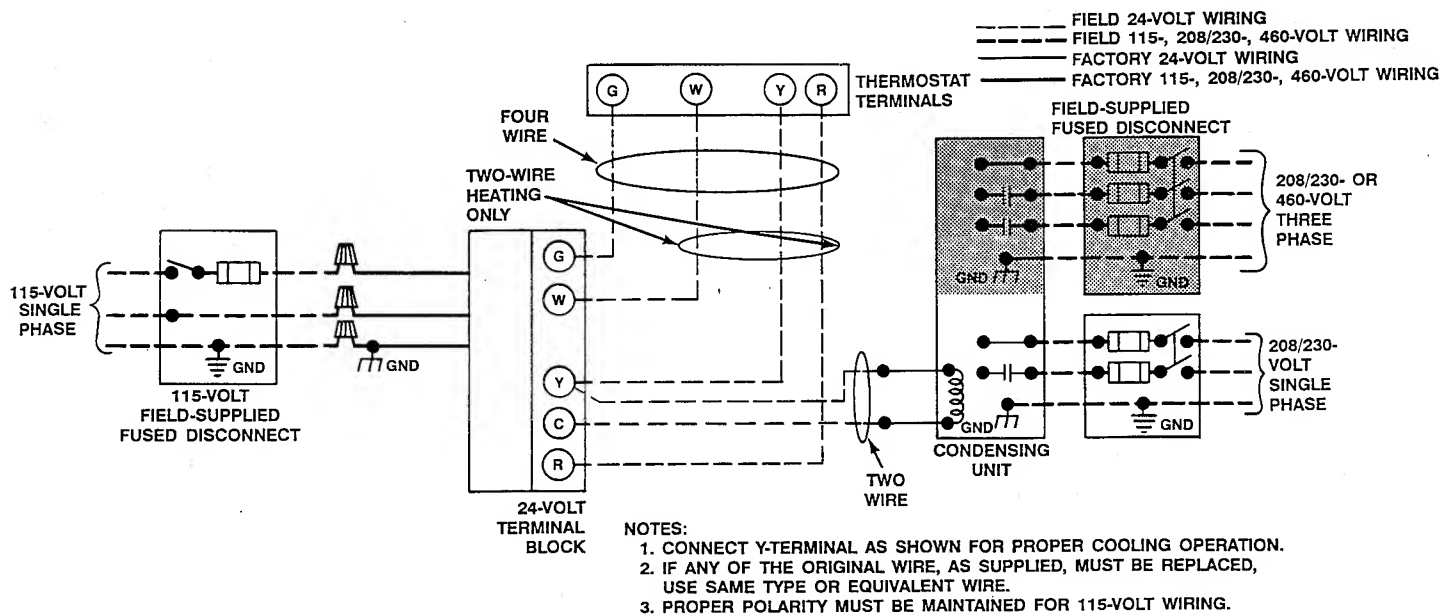
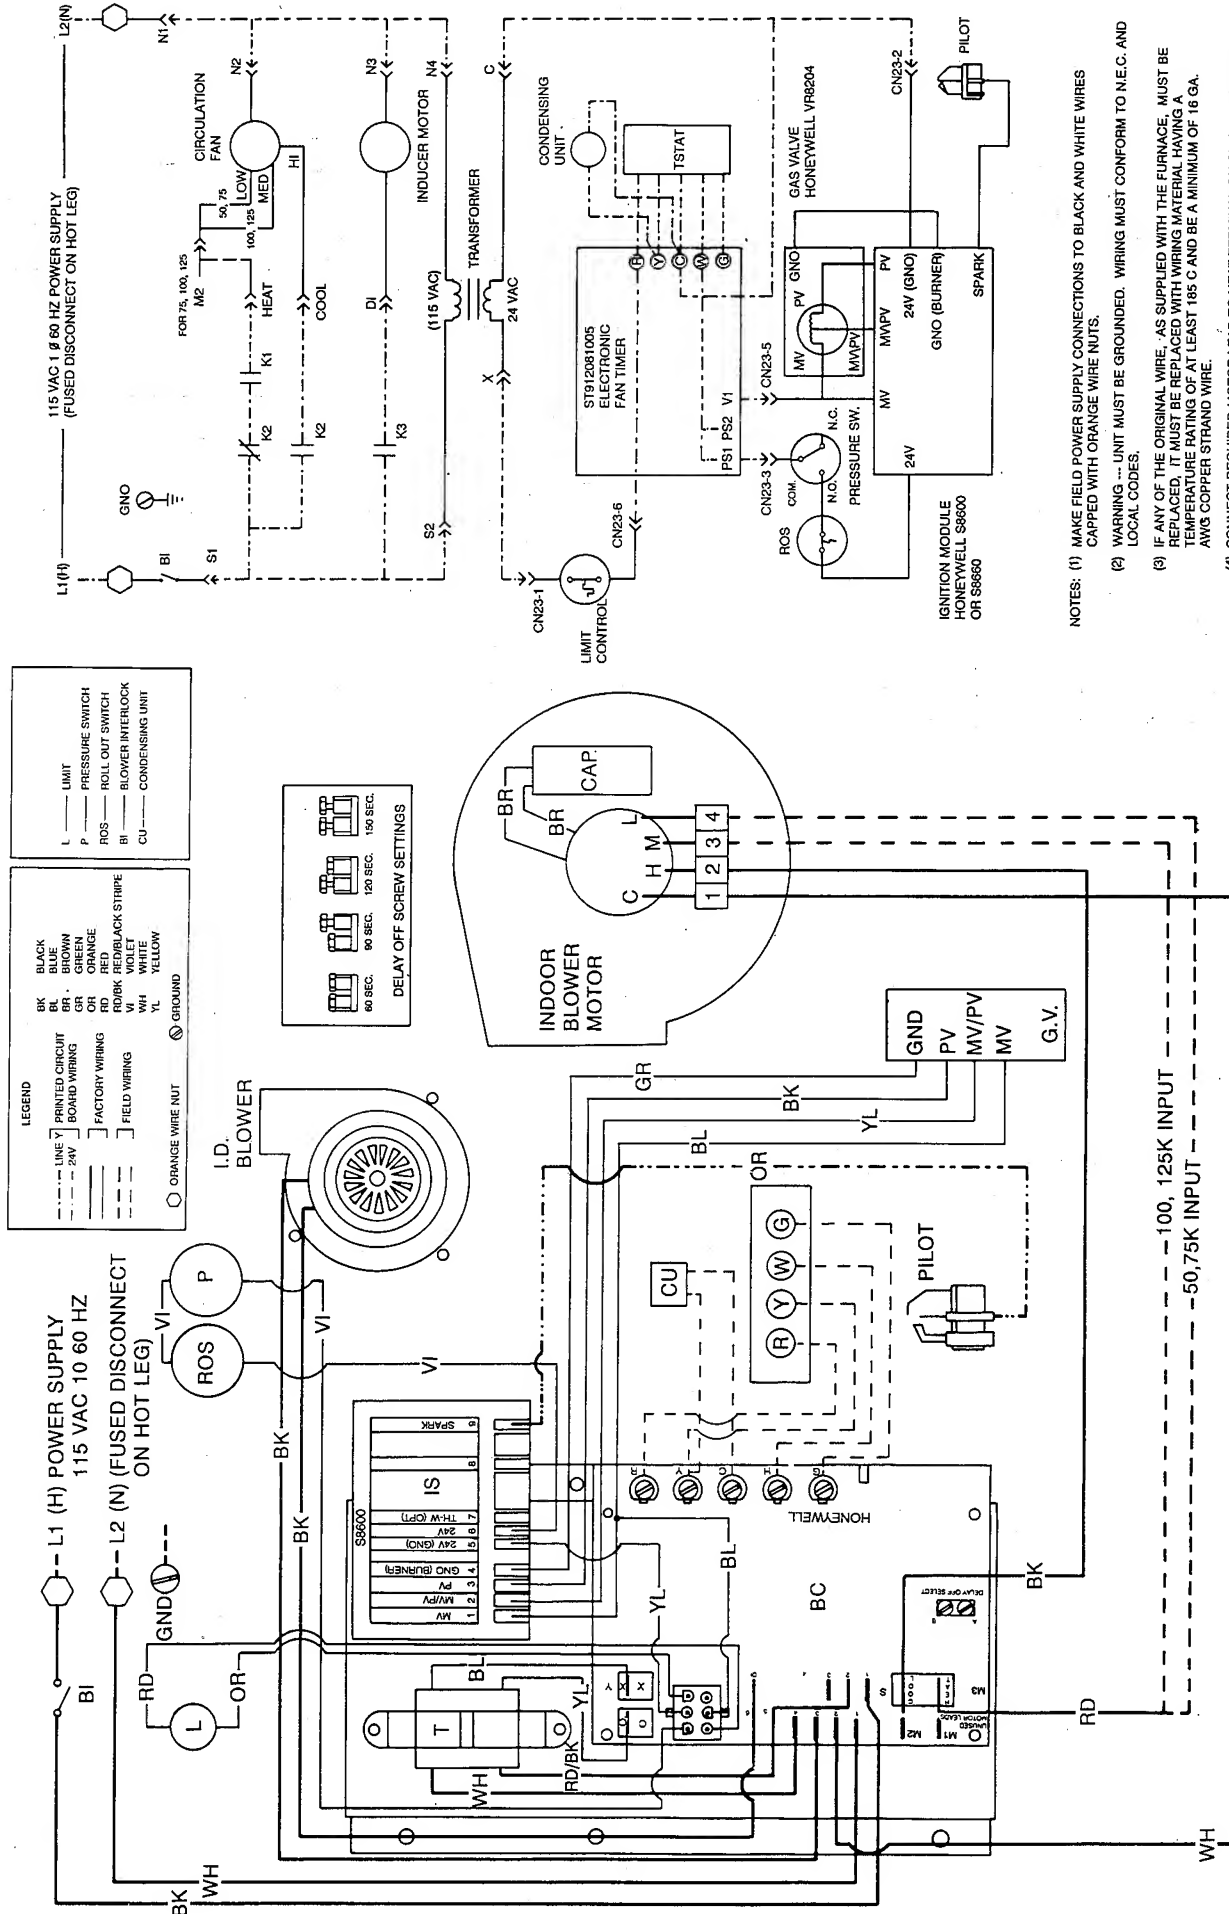

Fig. 6—Heating and Cooling Application Wiring Diagram
Fig. 7—Wiring Diagram
14. Using wiring diagram (Fig. 7.) reconnect wiring to gas valve.
Refer to Fig. 6 for field application wiring and Fig. 7 for unit wiring. With power disconnected to the unit, check all electrical connections for tightness. Tighten all screws on electrical connections. If any smokey or burned connections are found, disassemble the connection, clean all parts, strip wire, and reassemble properly and securely.